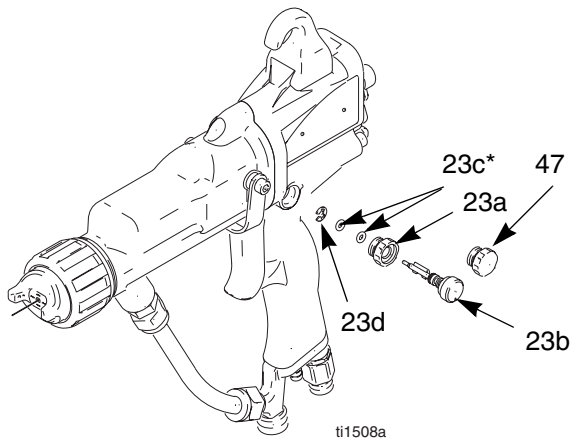

Fig. 22. Atomizing Air Restrictor Valve
2. Remove the atomizing air restrictor valve (23) . Inspect the o-ring (23c*). Replace if necessary. See FIG. 22..
3. Install a new atomizing air restrictor valve (23), or disassemble and replace parts individually. The valve protrusion must be oriented to clear the air valve (21) shaft.